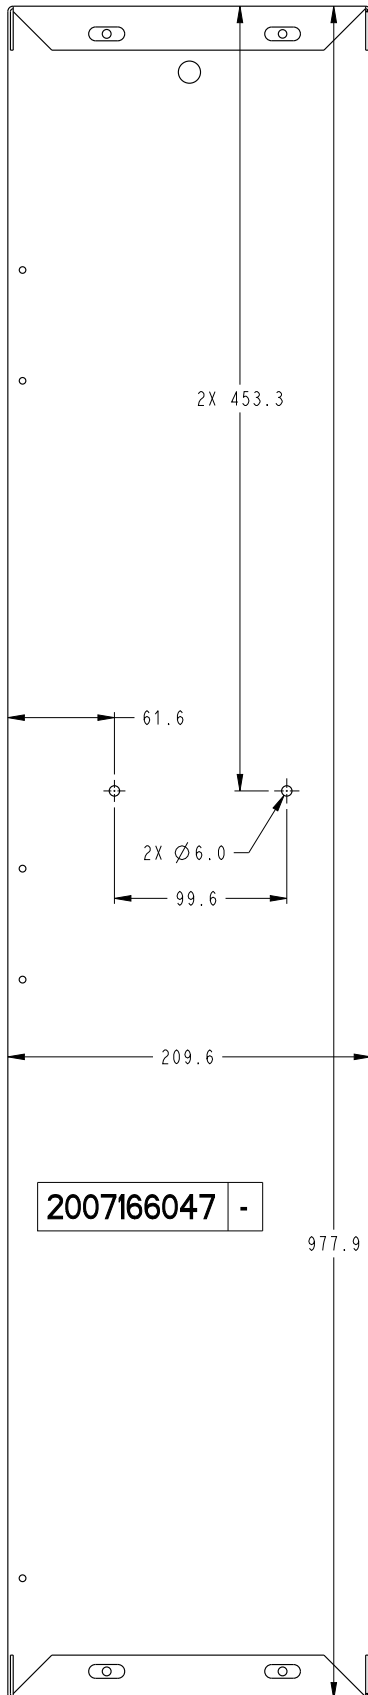

Fig. 10 — P/N 2007166047 Drill Template
2. Using a power tool, drill two hole pattern as shown in Fig. 10. Use a #8 (0.236 in) drill bit to drill a holes.